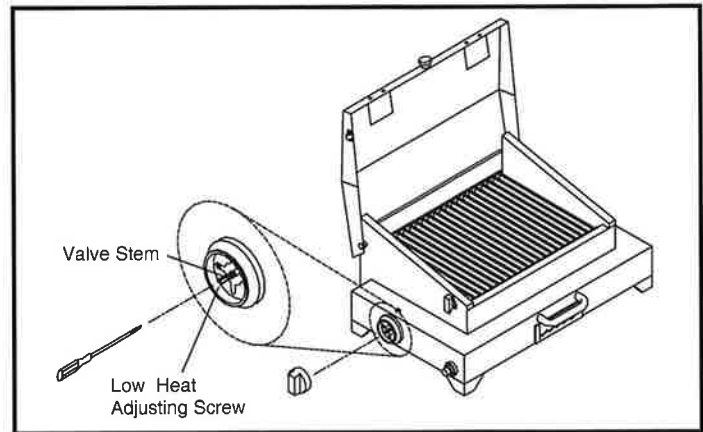

Figure 11 Low Heat Adjustment
3. Remove the Burner Output Knob from the valve stem. (See Figure 11, Page 11)